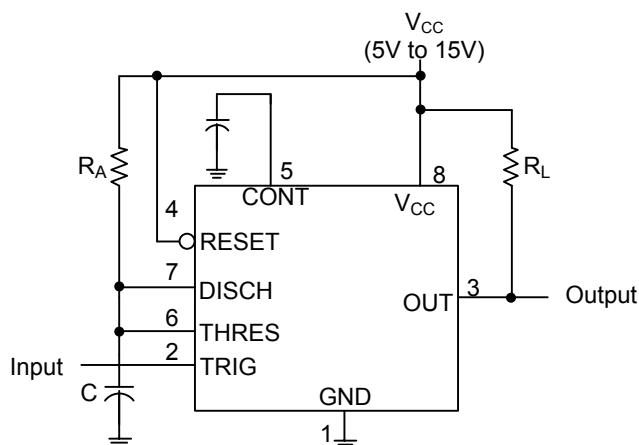
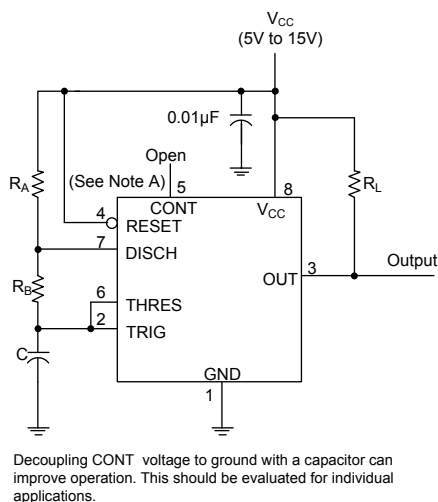

Figure 1. Monostable Operation
Figure 4. Circuit for Astable Operation
11. Values specified are for a device in a monostable circuit similar to Figure 1, with the following component values: $R_A = 2k\Omega$ to $100k\Omega$, $C = 0.1\mu F$.
12. Values specified are for a device in an astable circuit similar to Figure 4, with the following component values: $R_A = 1k\Omega$ to $100k\Omega$, $C = 0.1\mu F$.
For monostable operation, any of the '555 timers can be connected as shown in Figure 1. If the output is low, application of a negative-going pulse to the trigger (TRIG) sets the internal flip-flop and drives the output high. Capacitor C is then charged through R_A until the voltage across the capacitor reaches the threshold voltage of the threshold (THRES) input. If TRIG has returned to a high level, the output of the threshold comparator resets the internal flip-flop, drives the output low, and discharges C.
As shown in Figure 4, adding a second resistor, R_B , to the circuit of Figure 1 and connecting the trigger input to the threshold input causes the timer to self-trigger and run as a multivibrator. The capacitor C charges through R_A and R_B and then discharges through R_B . Therefore, the duty cycle is controlled by the values of R_A and R_B .
By adjusting the length of the timing cycle, the basic circuit of Figure 1 can be made to operate as a frequency divider. Figure 9 shows a divide-by-three circuit that makes use of the fact that retriggering cannot occur during the timing cycle.